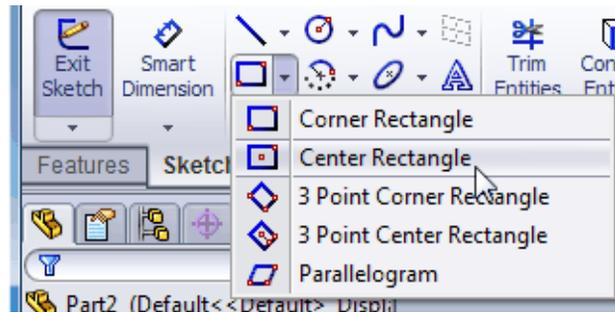

Figure 39 Clicking Center Rectangle on the Rectangle tool of the Sketch toolbar
- 4 Click the down arrow next to the **Rectangle** tool on the **Sketch** toolbar, and click **Center Rectangle**. See Figure 39.